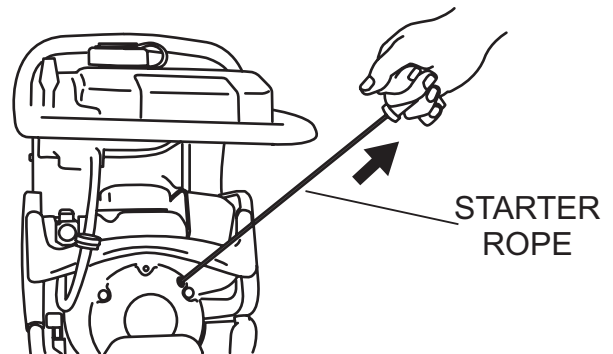

Figure 7. Recoil Starter
3. Grip the starter rope handle (Figure 7 handle and pull it until you feel a slight resistance. Then pull sharply and quickly. Return the handle to the starter case before releasing.